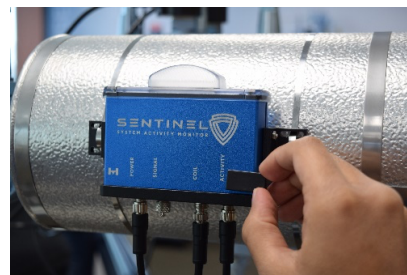

Figure 21
- 2 Connect Power "ON" device and connect via Bluetooth App using a magnet as shown in figure 21.